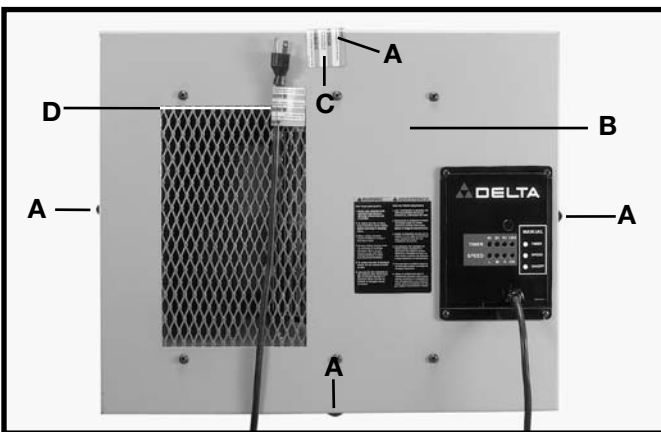

Fig. 2B
1. Remove the four screws (A) Fig. 2B, one on each side of the rear panel (B).
2. Remove the rear panel (B) Fig. 2B with the blower housing attached.
6. Once these steps have been taken, remove and discard the warning labels that were attached to both the rear panel/cabinet (C) Fig. 2B and the end of the power cord (D).